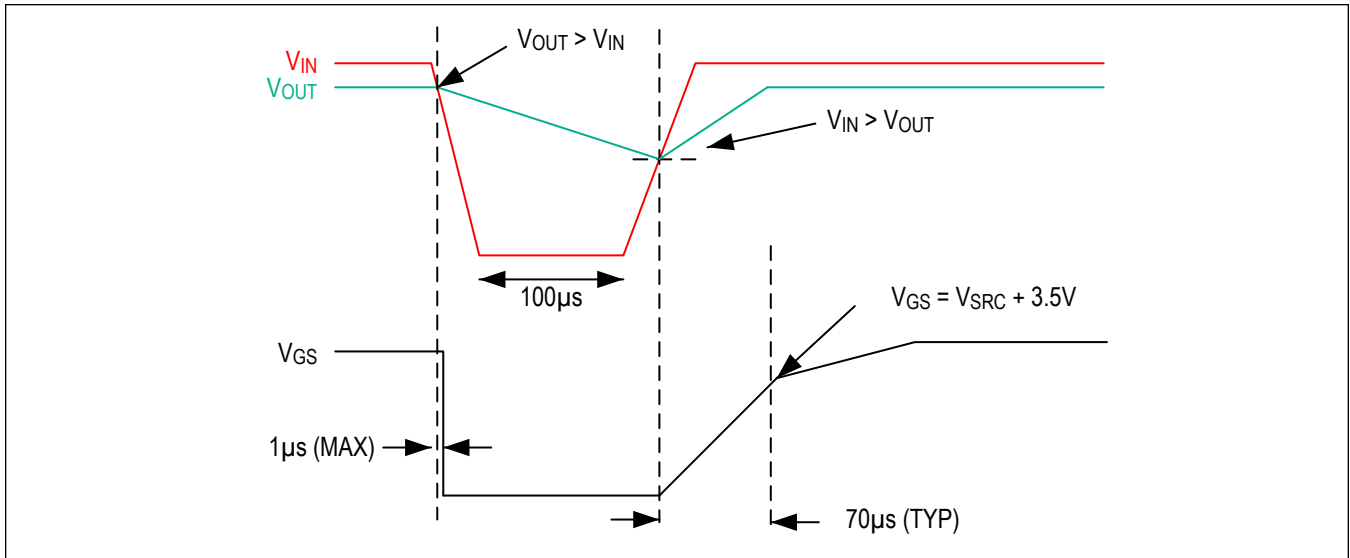

Figure 5. Short Power Interruption and Recover
In an automotive environment, systems usually experience brief power interruptions where the main supply is shorted to ground. The power interruption may last for several seconds and the only source of power to system load is the output capacitance. To ensure fast recovery, an auxiliary input ( $V_{CC}$ ) helps keep the MAX16141/MAX16141A in standby mode for 100 $\mu$ s (typ). When the main supply input (IN) recovers, the MAX16141/MAX16141A initiate a fast recovery mode that allows the gate to reach its peak voltage within 70 $\mu$ s (max). See Figure 5 for more detail. Therefore, brief power supply interruptions will not affect operation of the load, as long as the load-side capacitance is sufficiently large to power the load during the interruption.